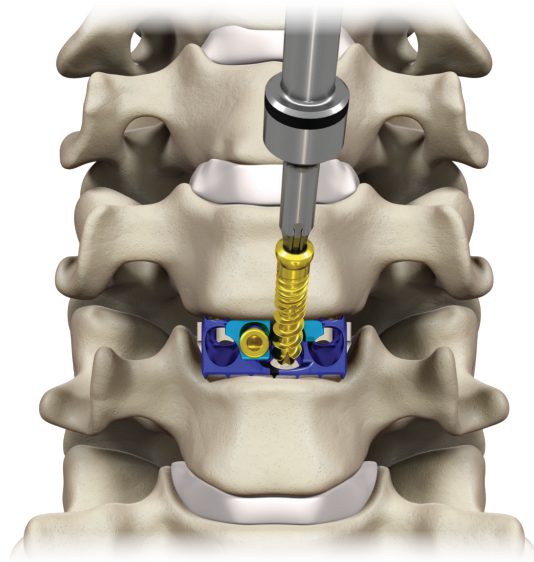

Figure 40
- Remove the awl/drill and guide. Load the desired screw onto the 2.0 mm hex driver. Insert the screw through the midline screw hole, advancing the screw until the screw head contacts the plate to provisionally stabilize the implant (Figure 40).